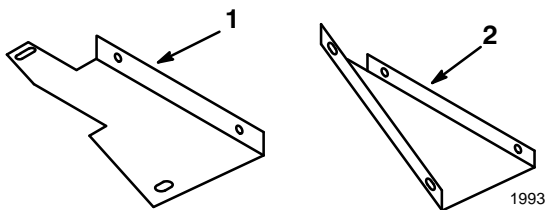

Figure 17
- Two belt covers brackets are supplied (Fig. 17). The short, wide bracket is for 42" mowers. The long, narrow bracket is for 48" mowers.